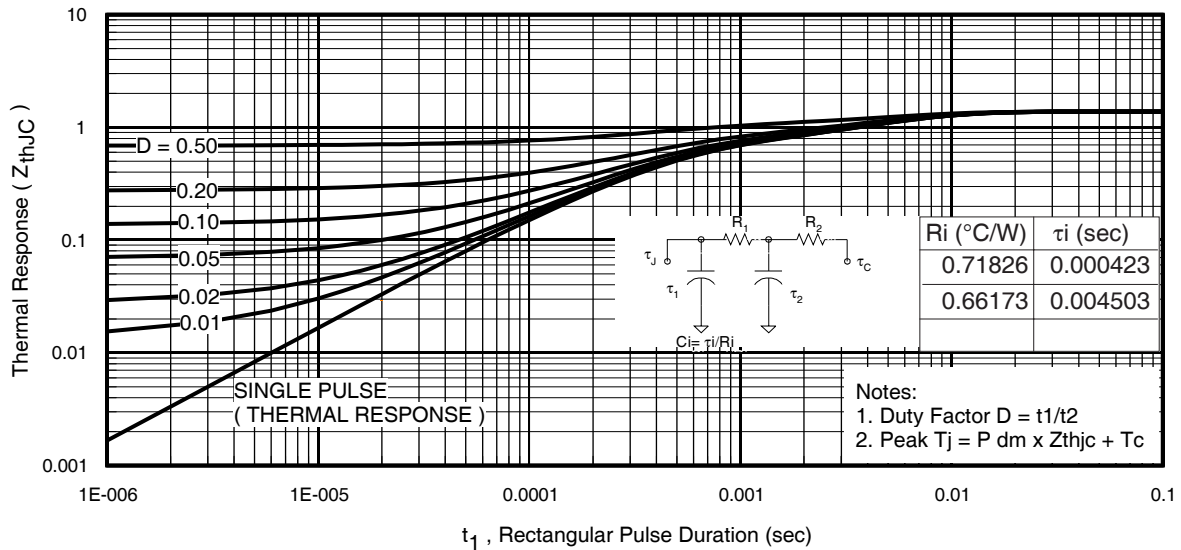
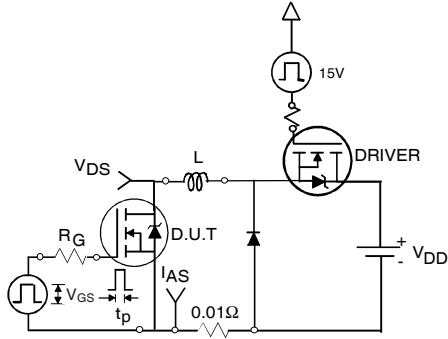

Fig 11. Maximum Effective Transient Thermal Impedance, Junction-to-Case
Fig 12a. Unclamped Inductive Test Circuit
3. Equation below based on circuit and waveforms shown in Figures 12a, 12b.
$Z_{thJC}(D, t_{av})$ = Transient thermal resistance, see figure 11)
- ① Repetitive rating; pulse width limited by max. junction temperature. (See fig. 11).
- ② Limited by T_{Jmax} ; starting $T_J = 25^\circ C$, $L = 0.21mH$, $R_G = 25\Omega$, $I_{AS} = 30A$, $V_{GS} = 10V$. Part not recommended for use above this value.
- ③ Pulse width $\leq 1.0ms$; duty cycle $\leq 2\%$.
- ④ C_{OSS} eff. is a fixed capacitance that gives the same charging time as C_{OSS} while V_{DS} is rising from 0 to 80% V_{DSS} .
- ⑤ Limited by T_{Jmax} , see Fig.12a, 12b, 15, 16 for typical repetitive avalanche performance.
- ⑥ This value determined from sample failure population. 100% tested to this value in production.
- ⑦ When mounted on 1" square PCB (FR-4 or G-10 Material). For recommended footprint and soldering techniques refer to application note #AN-994
- ⑧ R_θ is measured at T_J approximately $90^\circ C$